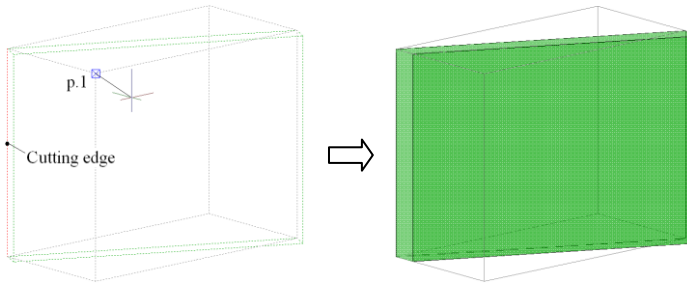

Fig. 4.20 “Angular cut of the edge” operation, example 1
Cut edge: Specify the edge of the edited Part. Note, the specified edge coincide with cutting edge, see fig. 4.20, page171.
**side #C / parallel #G / perpendicular #H / angle #E / Point 1 of cutting surface of parallel to one*: Specify the first point to determine cutting surface, see fig. 4.20.
change point #N / Point 2 of cutting surface of parallel to one <ENTER - due to edge and point 1>: Press **Enter** to determine cutting surface by point and cutting edge, see fig. 4.20.